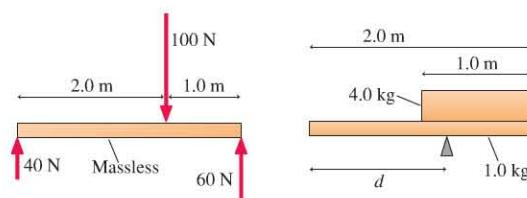

FIGURE P8.7
7. III Is the object in Figure P8.7 in equilibrium? Explain.